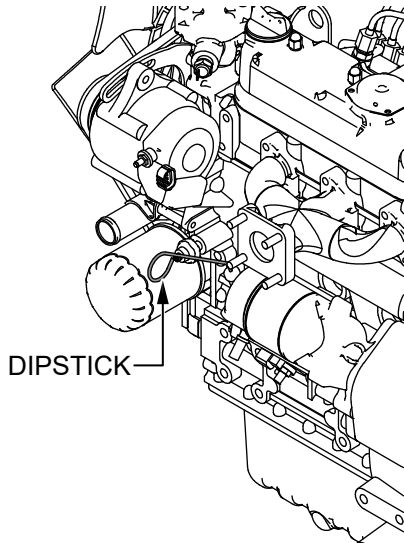

Figure 6. Engine Oil Dipstick Location
2. Remove the **engine oil dipstick** from its holder (Figure 6) and wipe it clean.